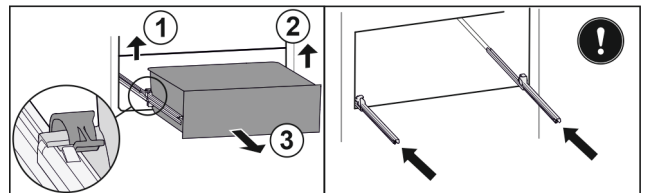

Fig. 78
- ▶ Lift left clamp and simultaneously pull drawer forwards on the left. Fig. 78 (1)
- ▶ Lift right clamp and simultaneously pull drawer forwards on the right. Fig. 78 (2)
- ▶ Remove drawer to the front. Fig. 78 (3)